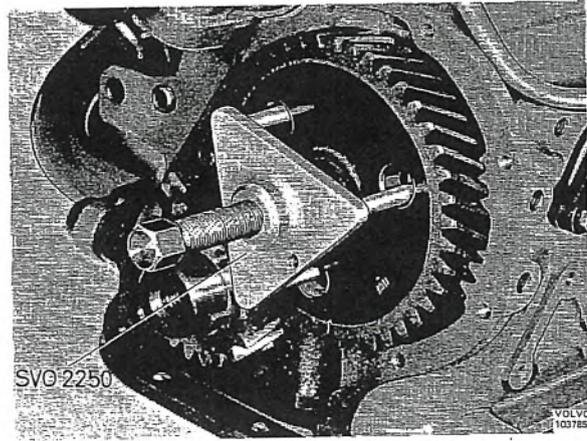

Fig. 2-40. Removing camshaft gear
4. Remove the camshaft nut and pull off the gear by using puller 2250, see Fig. 2-40.